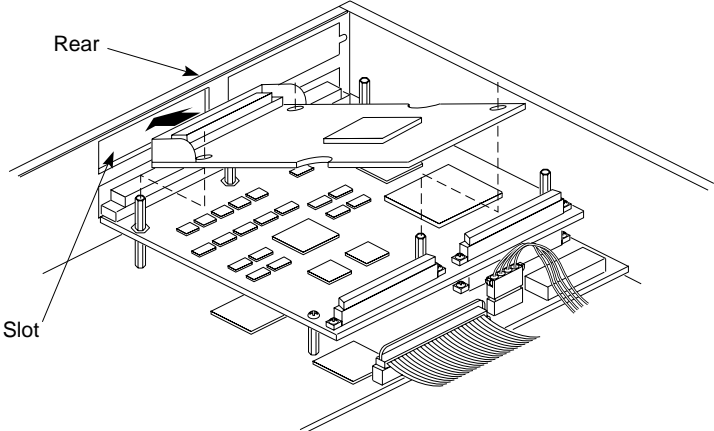

Figure 5-3 Inserting the GIO Board's I/O Connector Through the Backplane
- 7. Lower the GIO option board over the IOPLUS board, inserting the GIO board's I/O connector through the open slot on the rear of the server, as shown in Figure 5-3.